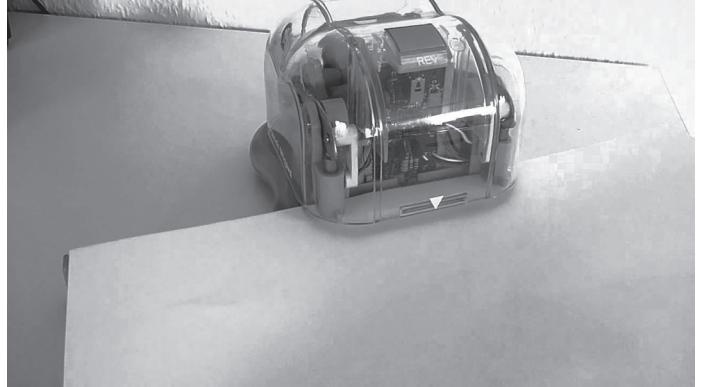

Fig. 1.1
- 1 **Fig. 1.1** shows **two** images of an electric hole punching machine used to make two holes in a piece of paper.
(d) The outer clear casing of the electric hole punching machine shown in **Fig. 1.1** is made from a thermoplastic material.